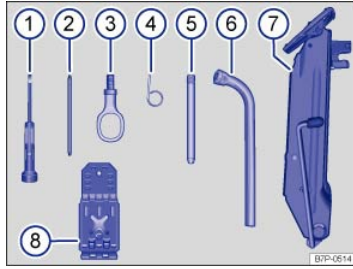

Fig. 207 Contents of the vehicle tool kit.
**Contents of the vehicle tool kit ⇒ Fig. 207 :**
- ① Screwdriver with removable blade.
- ② Torx bit. The Torx bit is removable and can be inserted in the screwdriver handle instead of the screwdriver blade.
- ③ Screw-in towing eyes.
- ④ Hubcap puller clips for removing wheel bolt caps.
- ⑤ Pin for changing a wheel.
- ⑥ Lug wrench.
- ⑦ Jack. Prior to storing the jack in the tool box, make sure to completely crank the jack down to its original position. Next the crank lever must be braced against the side of the jack.
- ⑧ Folding chocks ⇒ Folding chocks.